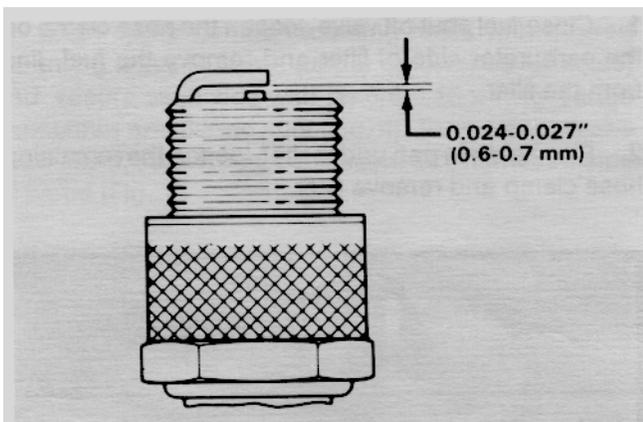

Figure 18
4. Set air gap between center and side of electrodes at 0.024–0.027 of an inch (0.6–0.7 mm (Fig. 18)). Install correctly gapped spark plug w/gasket seal, and tighten plug to 18 ft–lb (24.4 Nm). If torque wrench is not used, tighten plug firmly.